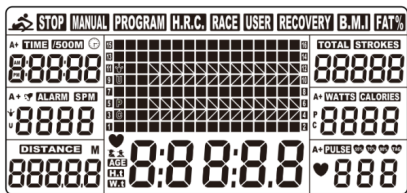

Fig. 1
1. Install 2PCS AA batteries (included), meter will beep for 2 seconds, and full screen display for 2 seconds (Fig. 1).